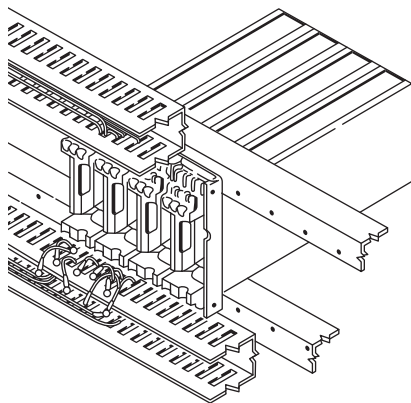

Figure 2.6 Wiring
- (2) Pass the electrical wires through the wiring duct and pull them out. Run the wires connecting to the input / output terminal board through the upper duct; through the lower duct run the wires connecting to the contact signal output terminals, and also the power wiring in the case of a terminal-connected power wired model (see Figure 2.6)